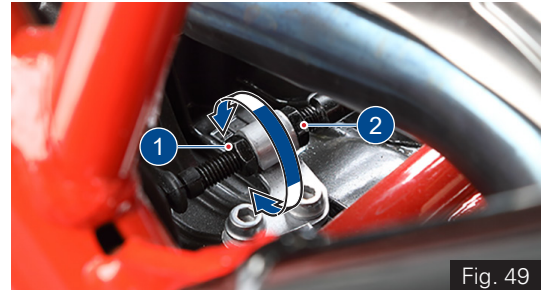

Fig. 49
- Lock the lock nut (3) again.
- Re-fix the dust cover (2) and cable clamp (1).
- Loosen the lock nut (5) at the bottom end of the clutch cable (ref. Fig. 49).